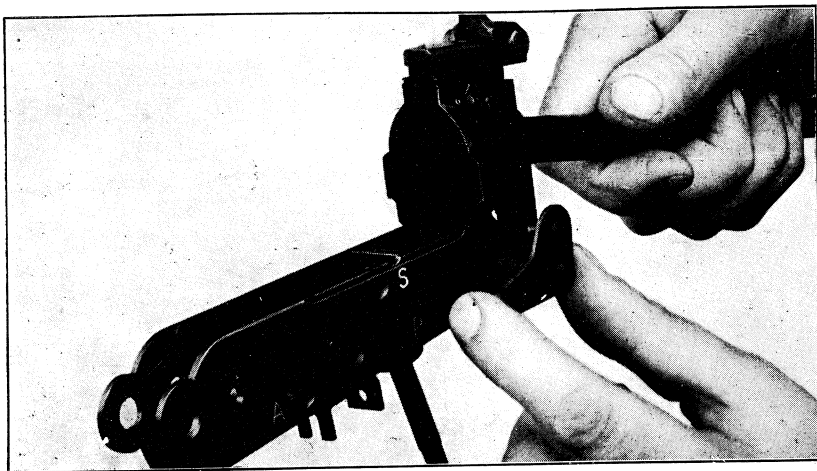

Fig. 121
Press the end of the lock lever with the finger (right side of the frame) and remove the lock lever on the left side of the frame (fig. 121).
- Replace the lock lever (fig. 121) and swing it in order to locate the stud in the lock.